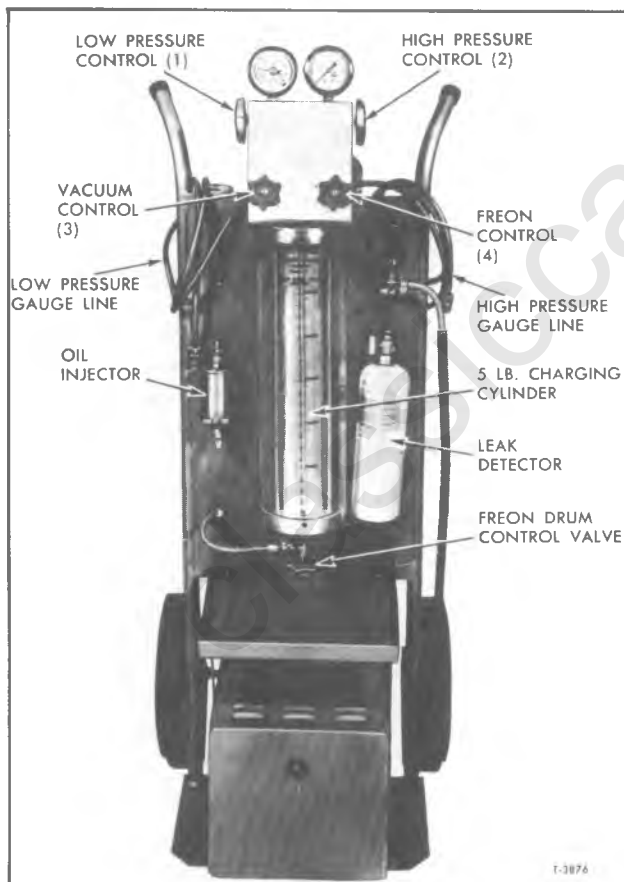

Figure 6—J-8393 Charging Station
The J-8393 Charging Station (fig. 6) is a portable assembly consisting of a vacuum pump, refrigerant supply, gauges, valves, and most important, a five (5) pound metering refrigerant charging cylinder. The use of a charging cylinder eliminates the need for scales, hot water pails, etc.
All evacuation and charging equipment is hooked together in a compact portable unit (fig. 6). It brings air conditioning service down to the basic problem of hooking on two hoses, and manipulating clearly labeled valves.